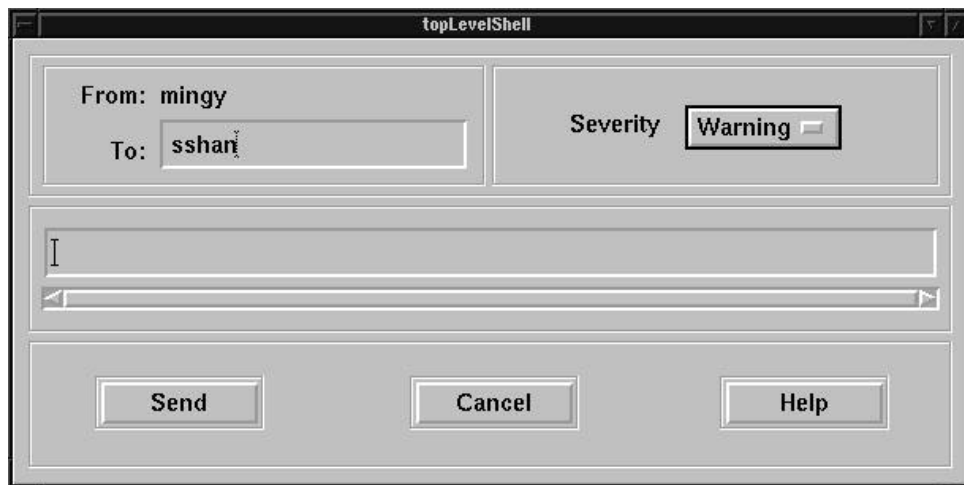

Figure 7.3.1-1. Quick Message Generator
1. **Start the Quick Message Generator (see Figure 7.3.1-1).**